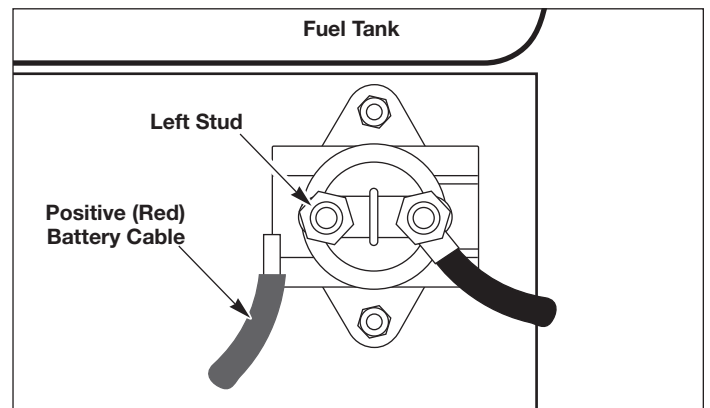

Figure 5 - Starter Solenoid
3. Attach the positive (red) battery cable to the left stud and reinstall the 1/4 inch nut. Tighten the nut one full turn after it is finger tight (See Figure 5).